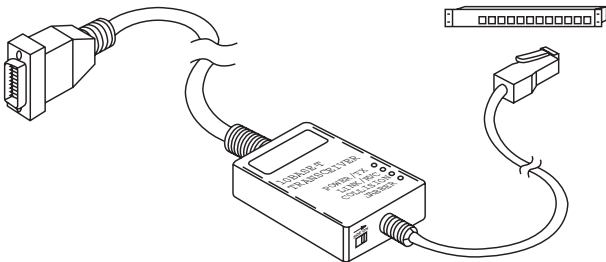

Fig. 4-1. Connecting the Transceiver to the Host and Hub.
2. Plug the RJ-45 connector of the UTP cable into the 10BASE-T hub. See Fig. 4-1.